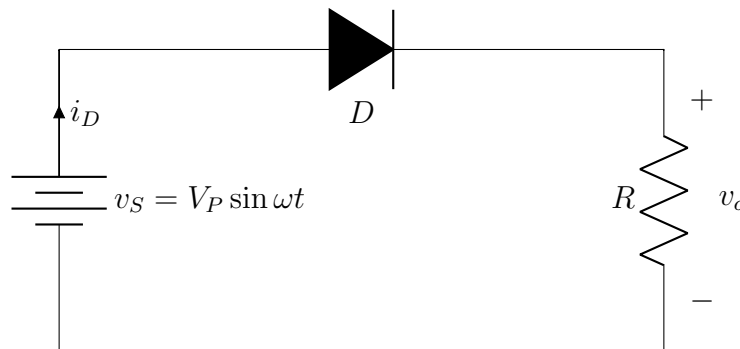

Figure 3: PN-Junction Diode Half-Wave Rectifier
1. Build a half-wave diode rectifier circuit using a Si 1N4148 diode, as shown in Figure 3. Use a 5 V_{pp} sinusoidal input waveform from the function generator. Use a resistor value of $1\text{ k}\Omega$ at the output.